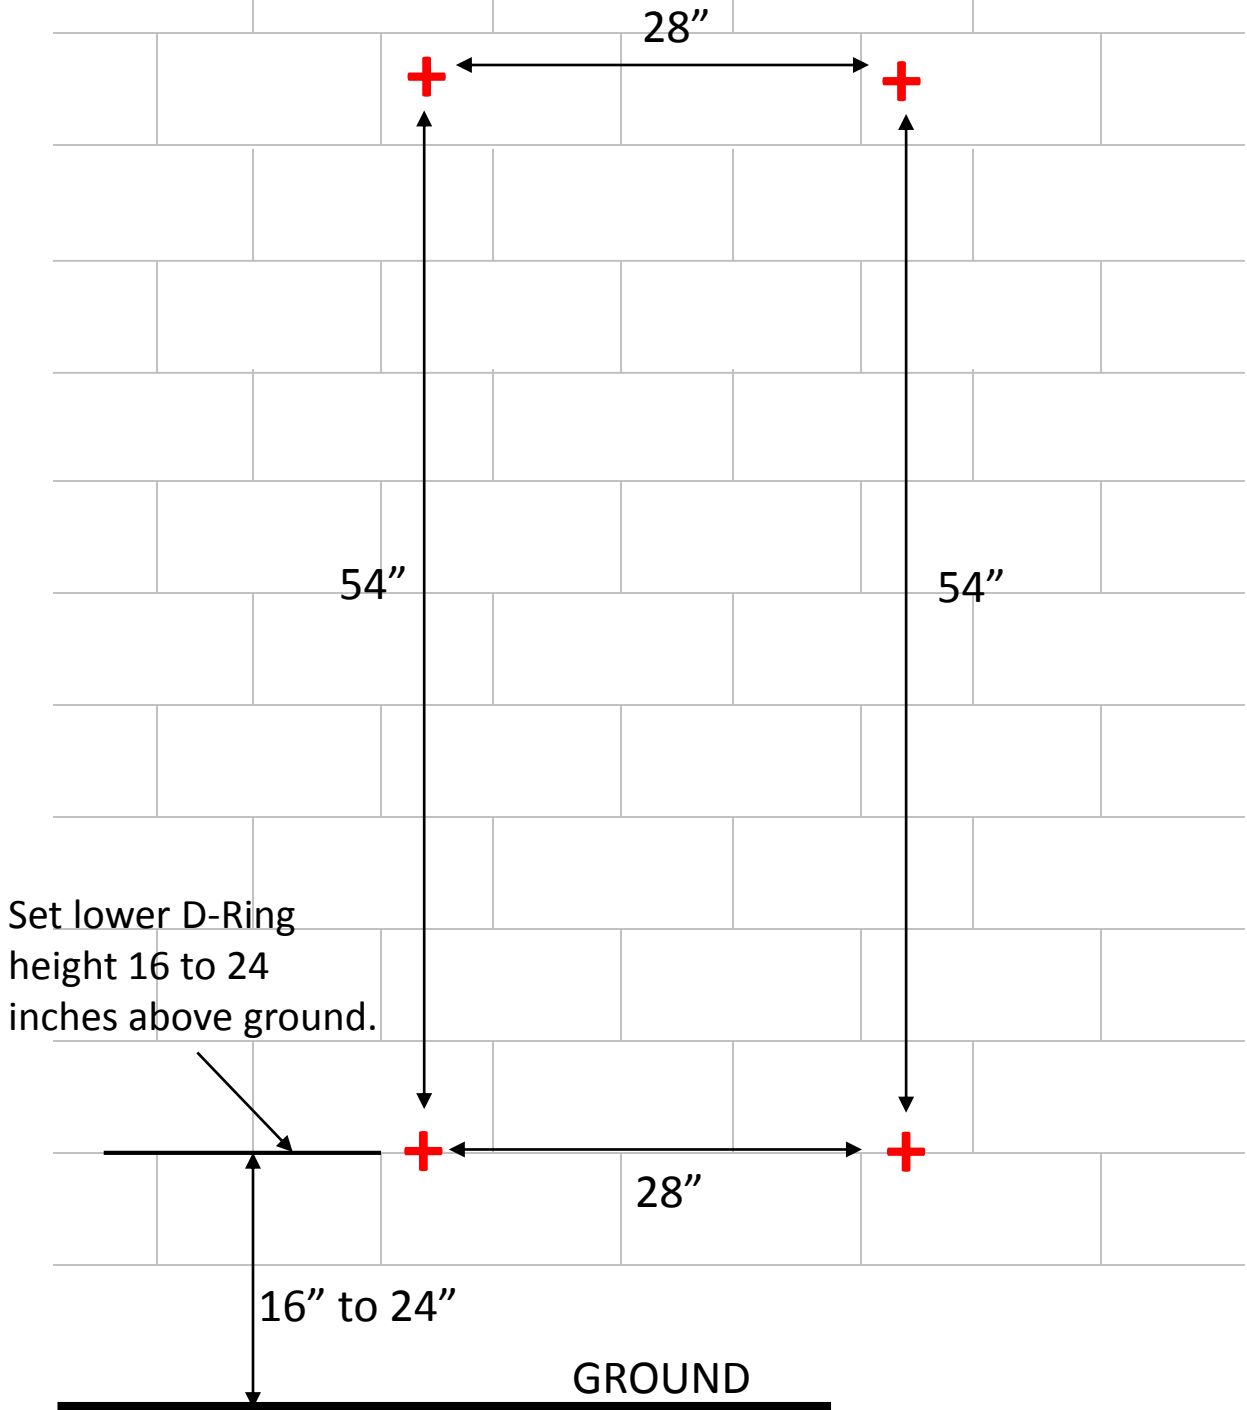

Figure 1
Step 1 – Referencing Figure 1, use the measurement specifications to mark the four locations indicated by the red + symbols and associated measurements.
Step 1 – Mark Four D-Ring locations on wall (+) with vertical and horizontal spacing as shown by Figure 1. Note the vertical position of lower D-Rings should be 16 to 24 inches above the ground
Step 1 – If mounting into 2X4 wood studs spaced 16" apart, referencing Figure 18 measurement specifications to mark the four D-Ring locations indicated by the red + symbols and associated measurements. **IMPORTANT WARNING** – It is the responsibility of the installer to ensure all mounting holes are centered exactly in the middle of each wood stud which may be hidden by dry wall. Most often this will be the 2 inch side of the 2X4. Standard wood stud spacing behind dry wall is 16 inches center to center. However, the installer must verify exact stud positioning and alter Figure 18 measurements accordingly so that D-Ring mounting holes are centered properly in the wood studs that have been certified to accept two ¼ X 3" lag screws for each D-Ring assembly and also certified to handle +/- 150 lb. point load at each D-Ring with maximum +/- 300 lb. load per stud. If you are mounting into a solid wood wall such as properly supported ¾" thick or thicker plywood you may use the D-Ring mounting & positioning specifications of Figures 1, 12 and 13.